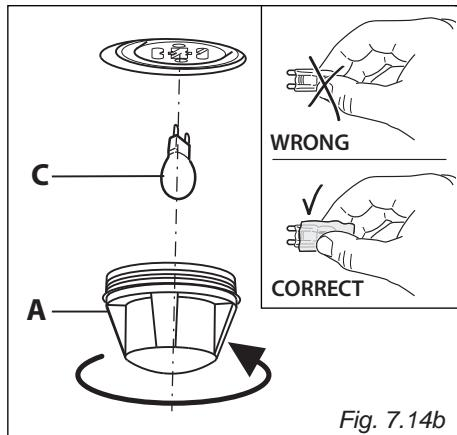

Fig. 7.14b
- Remove the protective cover "A" (fig. 7.14b).